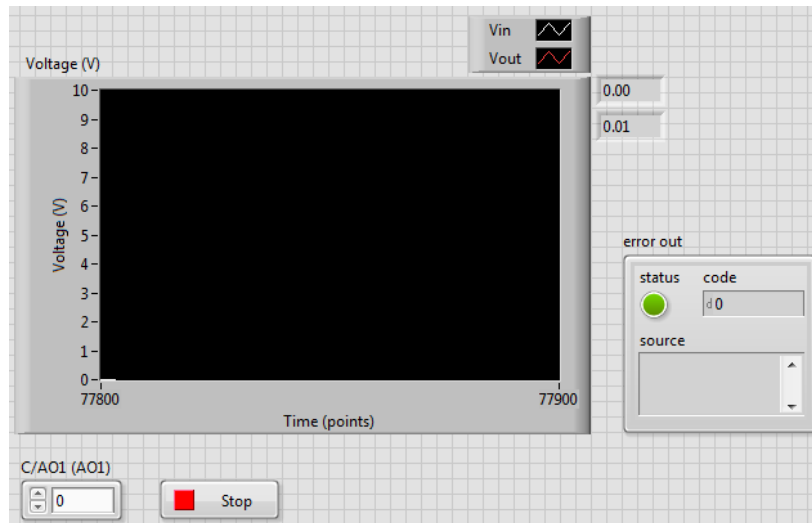
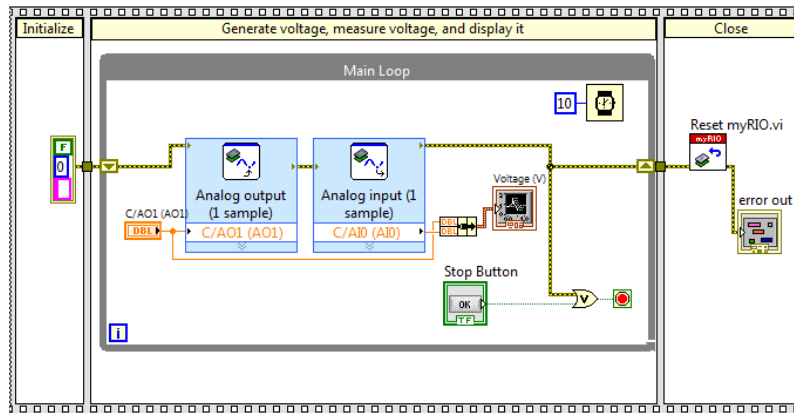

Figure 02.15: how the front panel of your VI might look.
Figure 02.16: how the block diagram of your VI might look.
- d. displays digital readouts of the current voltage output and input, continuously. The front panel of Figure 02.15 and corresponding block diagram of Figure 02.16 show one way of realizing this VI.